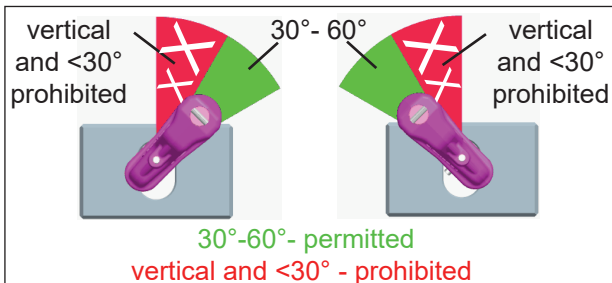

Fig. 6: Range of use VIP container hook VCH-SL 22
4. The VCH-SL 22 may only be used in the angle range 30-60° (see fig. 6, green range).
5. The VCH-SL 22 may only be used for vertical lifting of ISO containers (see fig. 6, red range).